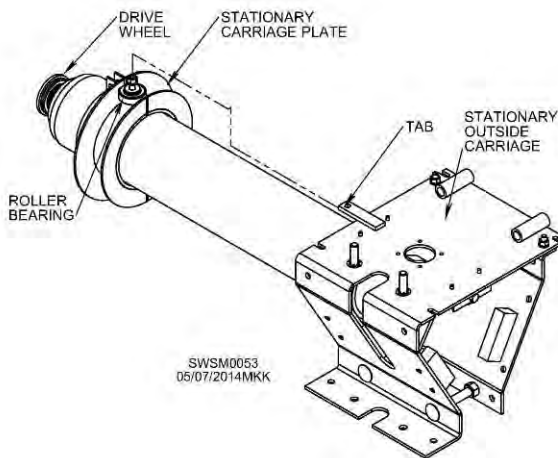

Fig. 7 – Placement of stationary outside carriage on Fastir Plus
- 3 Bolt stationary carriage plate onto drive wheel end of crosstube with hub pointing outward using 3/8" x 1-3/4" bolts and 3/8" washers and nuts. See Figs. 7 & 13.
- 4 Slide stationary outside carriage onto crosstube beside plate with reversing mechanism tab pointing toward drive wheel. See Figs. 7 & 13.
- 5 Slide satellite carriage(s) onto crosstube from inside, shaft end with reversing mechanism tab pointing toward drive wheel, as shown in Fig. 7.
- 6 Slide primary carriage about 1 foot onto crosstube from inside, shaft end. Knurled bearing should be on top and slot for down auger on front of crosstube as shown in Figs. 7 & 8.